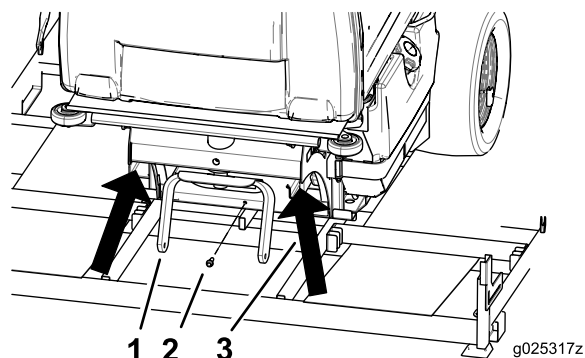

Figure 10
5. Raise the rear of the unit approximately 25.4 to 30.5 cm (10 to 12 inches) and support it with jack stands or equivalent support (Figure 10).